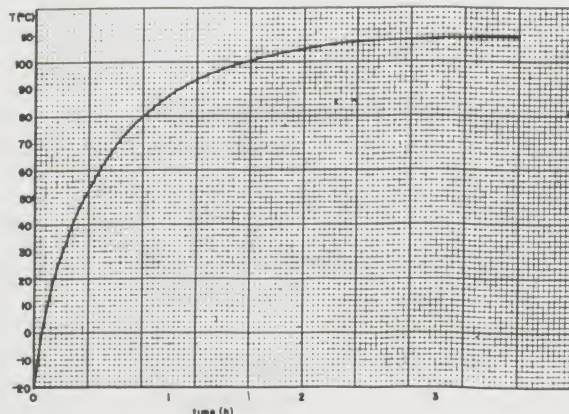

Figure 68
4. a. Given the transistor heating graph in Figure 68, find the time constant in two ways. The power input is 5 W.